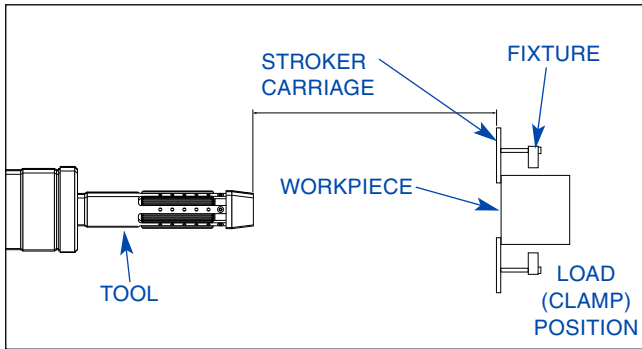

FIGURE 3-3, Load Position
• Use F2 (OUT) and F3 (IN) along with Palm Buttons, to move Carriage Load Position (see Figure 3-3).